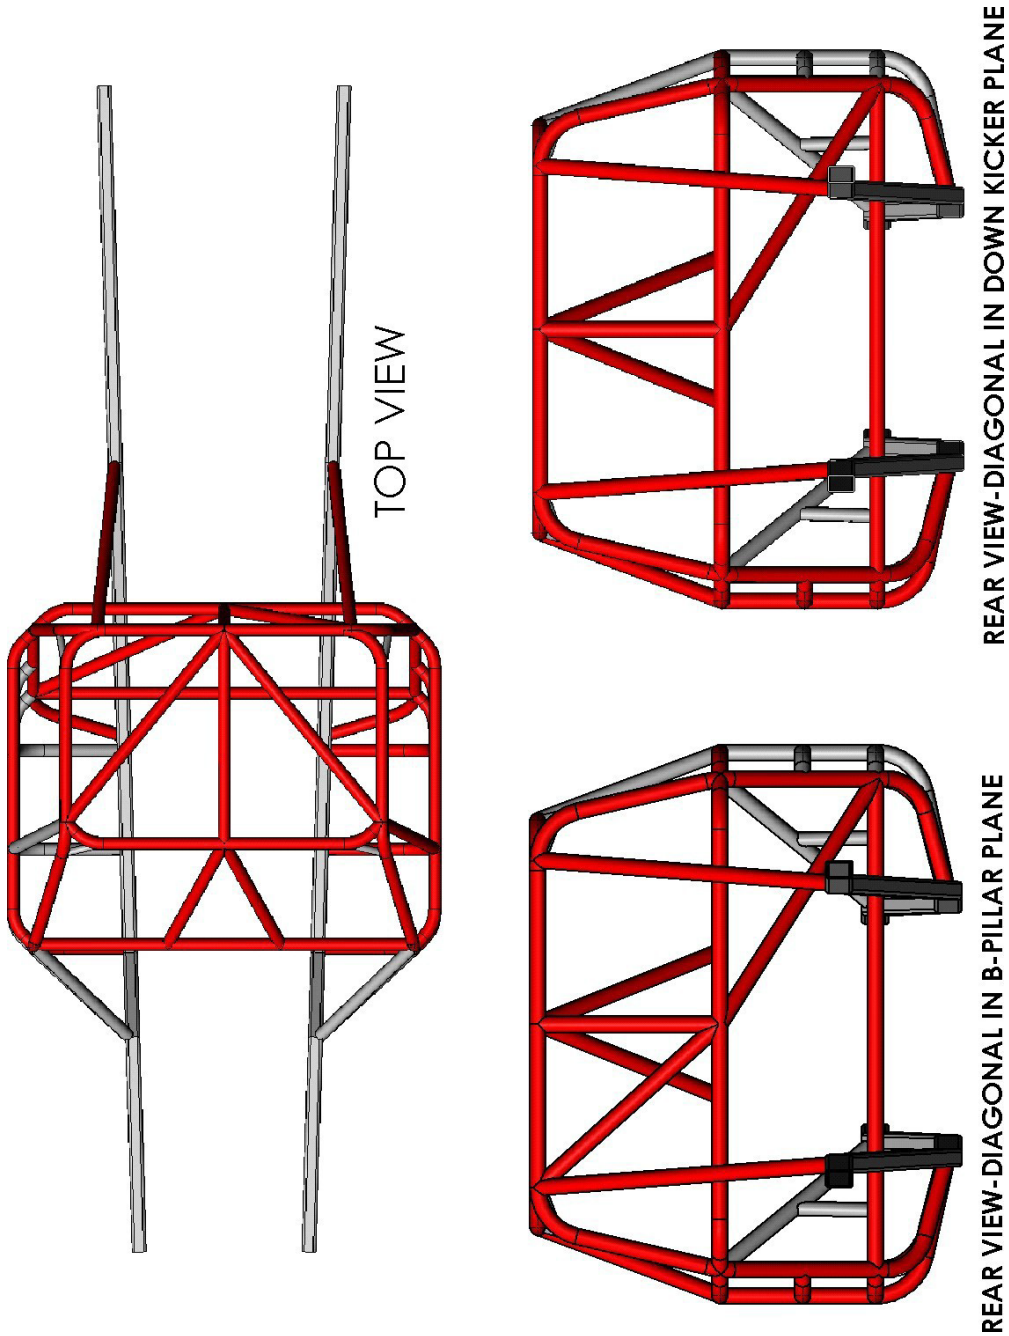

**Figure 7 DRIVER DOOR BAR COVERING**
- Driver's side door bars must be covered with a minimum of .125-inch steel plate bolted on, using a minimum of 3/8" bolts on 6" centers. See diagram on FIG 7.
- Under driver Floor Plate: .125" thick steel or .250" 6061-T6 aluminum plate bolted every six (6) inches with 3/8 bolts. Plate must cover entire floor opening from front fire wall to back firewall side tube to side tube of driver's compartment. Plate must extend to centerline of all floor tubes. Mounting tabs must be made of .090 thick steel.
- Mud flaps are required and must extend from 6 inches above center line of rear axle to 3 inches from ground at ride height. See diagram on FIG 7